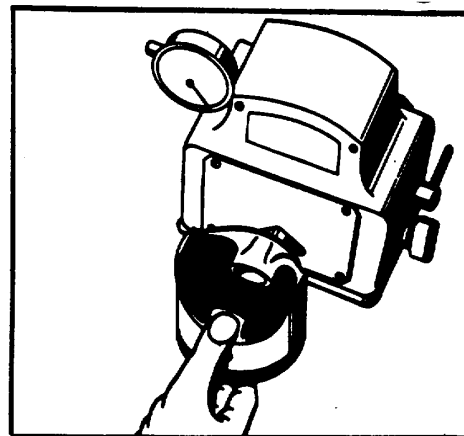
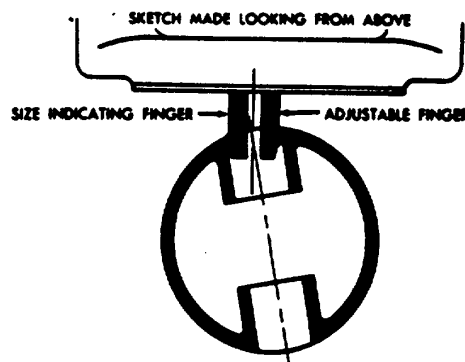
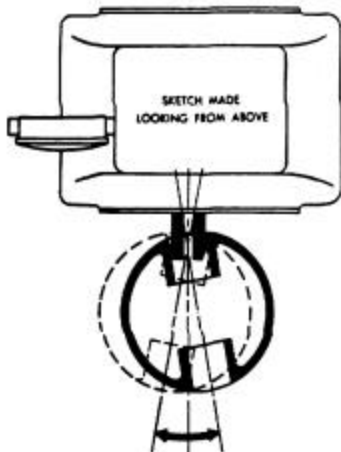

FIGURE 39
FIGURE 40
FIGURE 41
- (3) To gage the piston to see how much stock must be removed, hold piston lightly with thumb on edge of skirt and fingers under crown as shown in Figure 39. Slip the piston first over Adjustable Finger point, then slide it over the Size Indicating Finger point, as shown in Figure 40. Allow piston to hang from centralizer point, but do not contact face of gage with piston. Make certain that gaging and centralizer points clear oil holes or grooves in the bushing or pin boss. Hold piston level and rock it to right and left as shown in Figure 41 to obtain maximum gage indicator reading (maximum counterclockwise movement of indicator hand). **IMPORTANT:** Note that this rocking movement is from side to side in a horizontal plane, instead of a vertical plane as with the setting fixture.